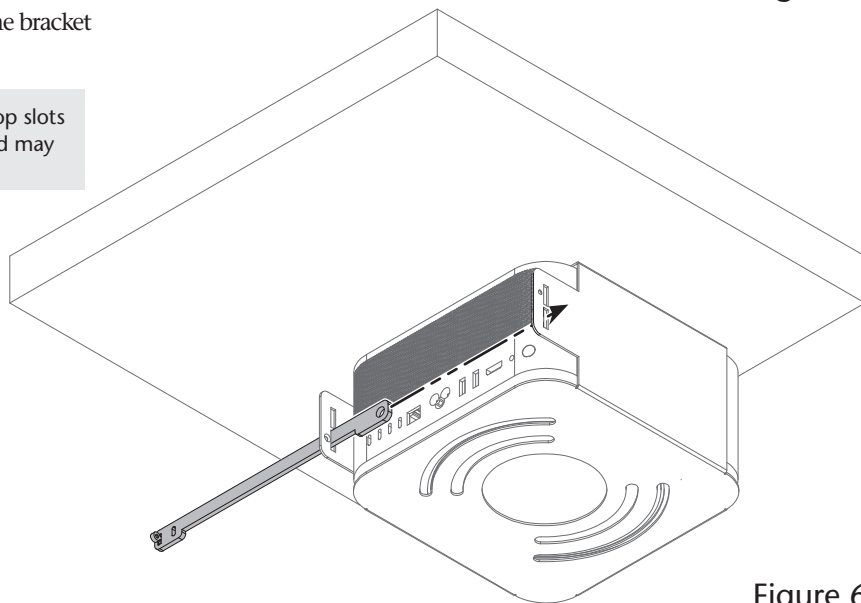

Figure 6
12. Insert the locking bar through the bottom slots in the bracket as shown (Figure 6).